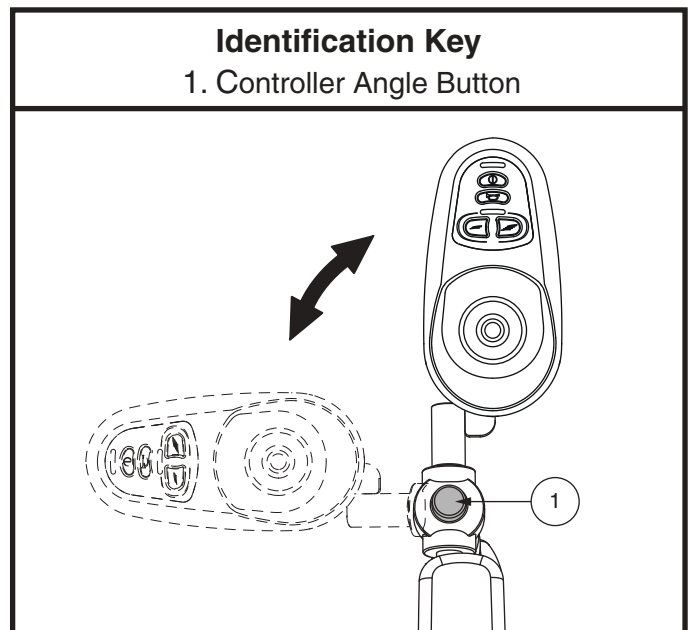

Figure 10. Controller Angle Adjustment
1. Press and hold the controller angle button and swivel the controller left or right into the desired position. **See figure 10.**